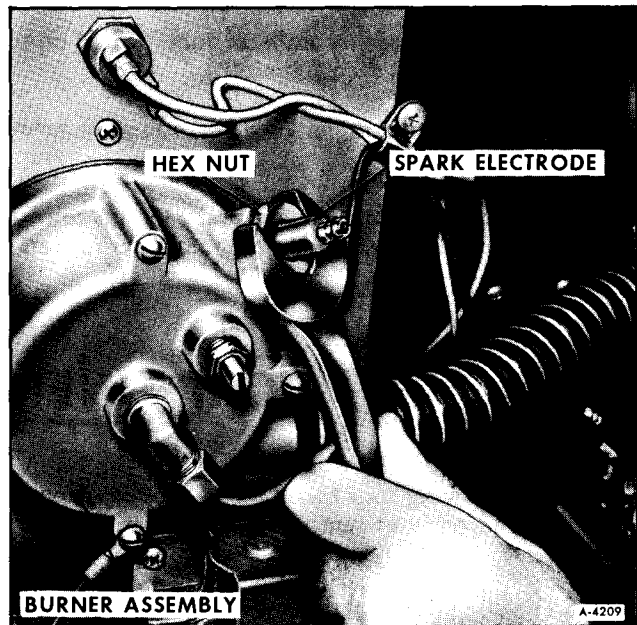

Figure 13—Removing Spark Electrode
2. Remove hi tension cable (See figure 13) from spark electrode.
2. Install hi tension cable (See figure 13) on spark electrode.